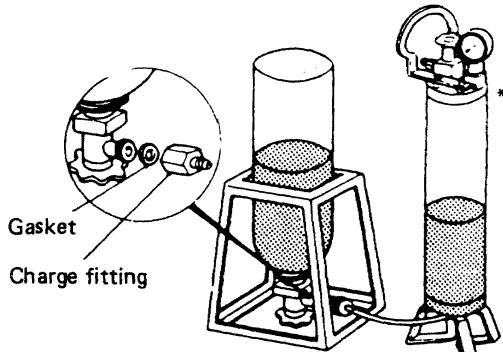

Fig. D-21
- * If cylinder has not yet been filled, move at least one pound of refrigerant (R22) to the charging cylinder. Fig. D-21